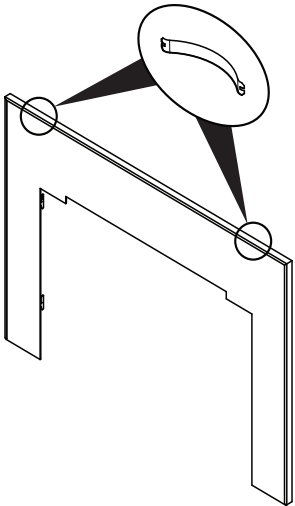

Figure 20.4
4. Install two steel springs at the top on each side and between the flat surround and the assembled trim kit as shown in Figure 20.4.